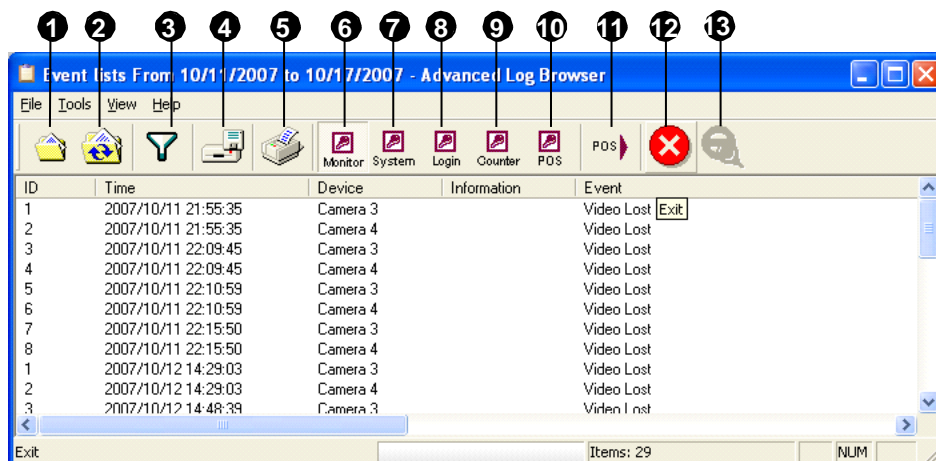

Figure 4-42 Advanced Log Browser
1. On the toolbar, click the desired log table button (Monitor, System, Login, Counter or POS), click the **Filter** button (No. 3, Figure 4-42), and select **Default Filter**. This dialog box appears.